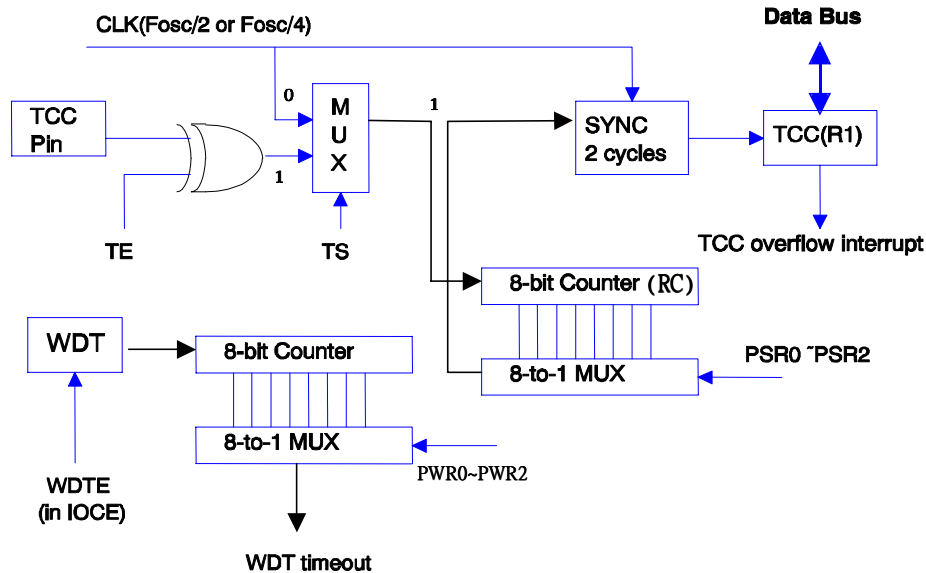

Fig. 6 Block Diagram of TCC and WDT
There are two 8-bit counters available as prescalers for the TCC and WDT respectively. The PSR0~PSR2 bits of the CONT register are used to determine the ratio of the prescaler of TCC. Likewise, the PWR0~PWR2 bits of the IOCE0 register are used to determine the prescaler of WDT. The prescaler (PSR0~PSR2) will be cleared by the instructions each time they are written into TCC. The WDT and prescaler will be cleared by the "WDTC" and "SLEP" instructions. Fig.6 depicts the circuit diagram of TCC/WDT.
- R1(TCC) is an 8-bit timer/counter. The clock source of TCC can be internal clock or external signal input (edge selectable from the TCC pin). If TCC signal source is from internal clock, TCC will increase by 1 at every instruction cycle (without prescaler). As illustrated in Fig. 6, selection of CLK=Fosc/2 or CLK=Fosc/4 depends on the CODE Option bit <CLKS>. CLK=Fosc/2 is selected if the CLKS bit is "0", and CLK=Fosc/4 is selected if the CLKS bit is "1". If TCC signal source is from external clock input, TCC will increase by 1 at every falling edge or rising edge of the TCC pin.